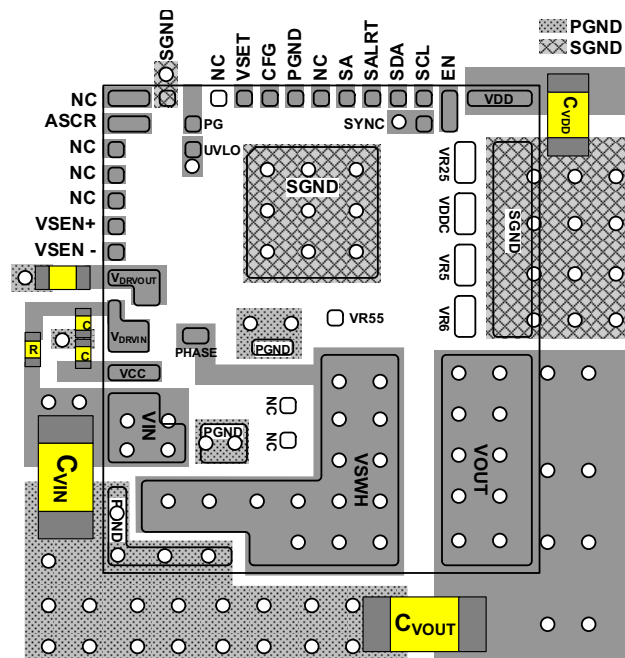

Figure 27. Recommended Layout - Top PCB Layer
- For $V_{DD} > 6V$, the recommended PCB layout is shown in Figure 27. Leave V25, V_{DDC} , VR5, and VR6 as “No Connect (NC)”.